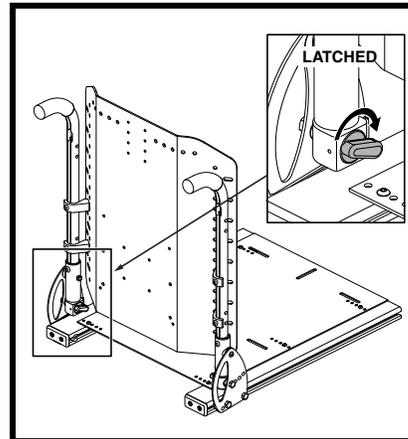

Figure 7. Flip-forward Back Canes (Latched)
2. Rotate the release lever on both back canes toward the front of the seat to latch the back canes. See **figure 7**. Ensure a red sticker on the release lever is not visible.